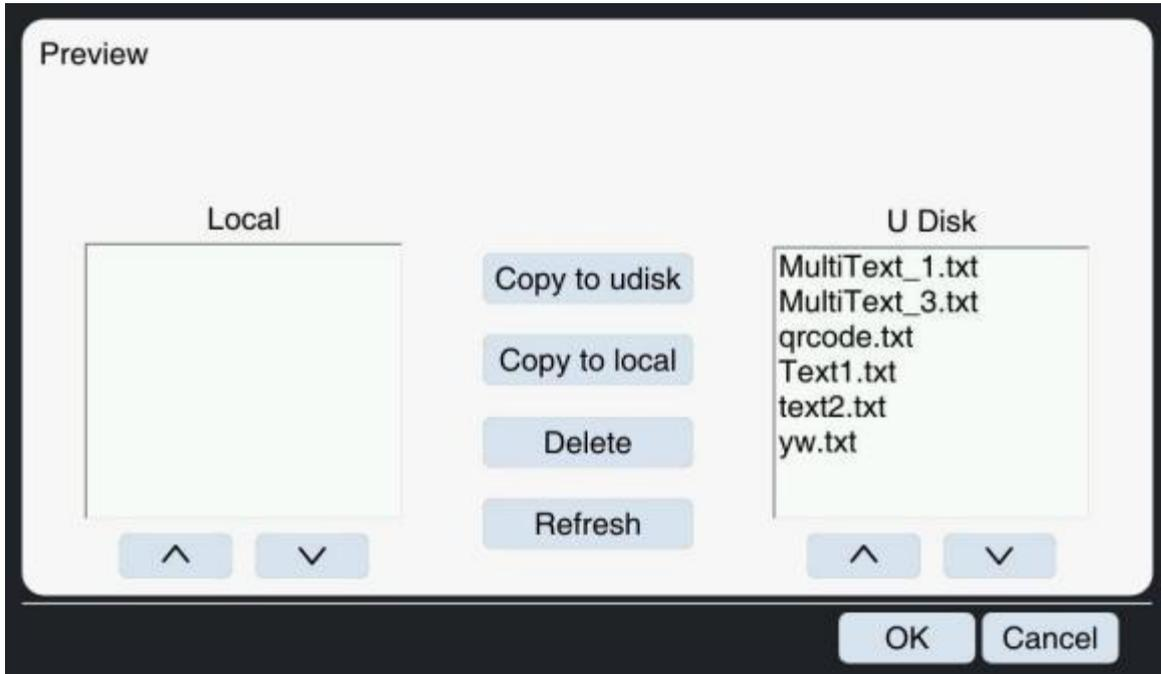

Figure 7-3
3. Selecting "File--->File loading" in the "Information Attribute Area" at the right side, in the pop-up preview interface, selecting the file in the U disk and clicking the "OK" button. As shown in Figure 7-3.